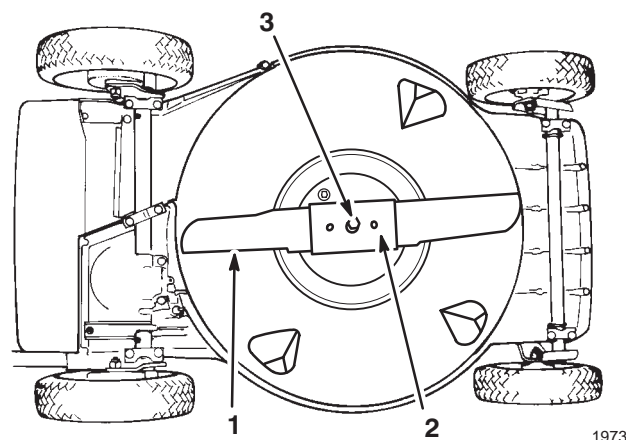

Figure 24
3. Tip mower on its left side (Fig. 24). Avoid rotating the blade because starting problems may result.
5. REMOVING BLADE—Grasp end of blade using a rag or thickly padded glove. Remove blade bolt, lockwasher, blade and blade stiffener (Fig. 24).